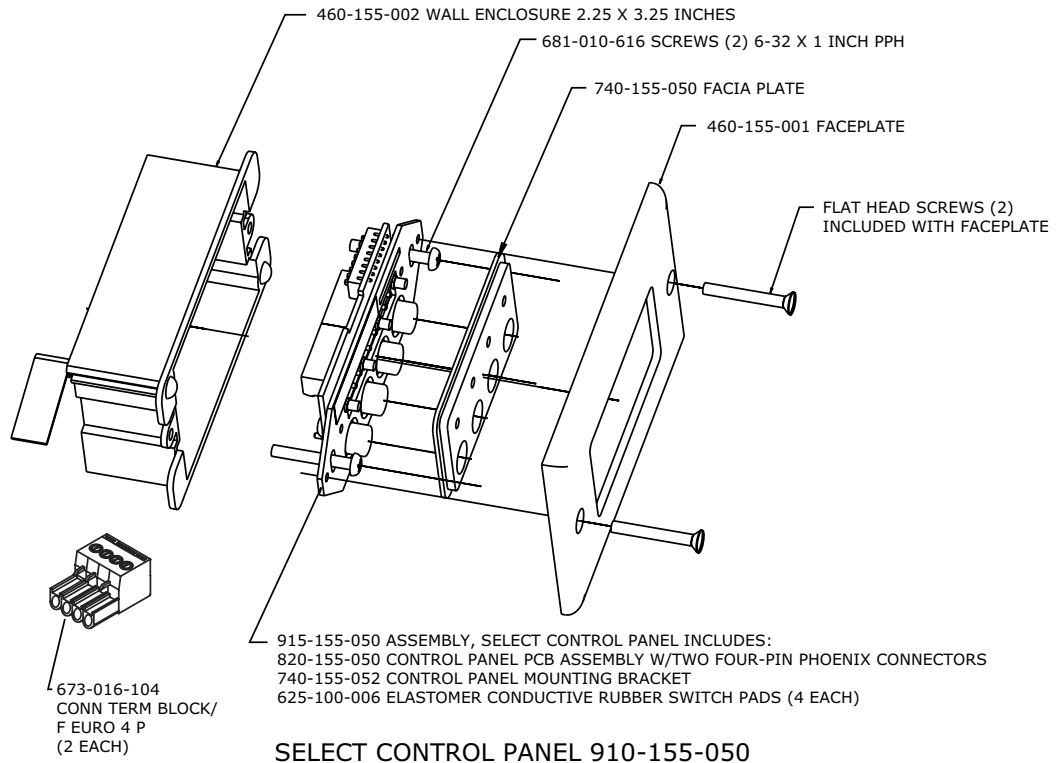

Figure C.5. Select Control Panel Assembly
1. Ensure you received a fascia plate; a Control Panel assembly with mounting bracket and two RS-485 Phoenix four-pin connectors; two connector terminator blocks; a faceplate; two flat HD screws; two pan-head screws; and an electrical wall box (shown in Figures C.5 and C.6). If any parts are missing, please contact ClearOne.
8. As shown in Figures C.5 and C.6, use the supplied pan-head screws to install the Control Panel PCB assembly to the electrical wall box.
9. To install the facia plate, position it over the conductive rubber switch pads on the PCB assembly, as shown in Figures C.5 and C.6.